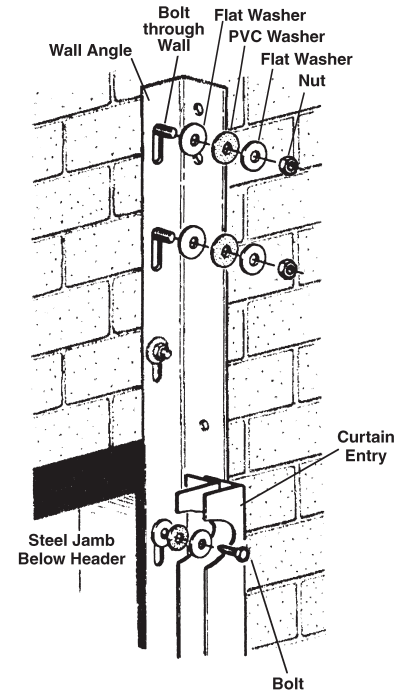

Figure 5
- Measure the length of the guide jamb angle and the height of the jamb opening. The difference must allow expansion of the guides 1/8" per foot of opening height. Attachment bolts or anchors must be installed at top of slot on wall angle. See Figure 5.
NOTE: When steel jamb does not extend above the opening, use three thru-bolts to fasten each wall angle above the opening. See Figure 5.